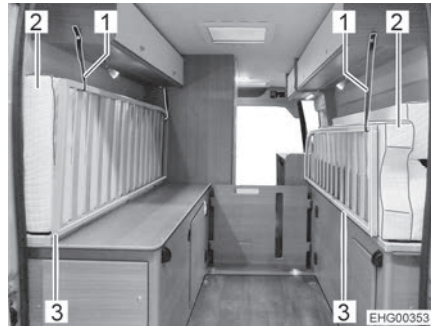

Fig. 37 Mattresses and bed bases (transport position)
- Fold the mattresses (with middle board and crossbeam) to the right and to the left side, see Fig. 37.
- Fold both bed bases (Fig. 37,3) up.
- Secure the mattresses (Fig. 37,2) and bed base on both sides with the retaining belt (Fig. 37,1).